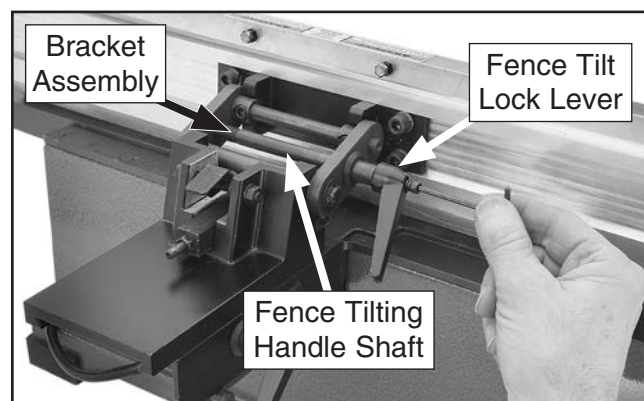

Figure 15. Installing fence tilt lock.
7. Install fence tilt lock by threading handle shaft into bracket assembly (see **Figure 15**).